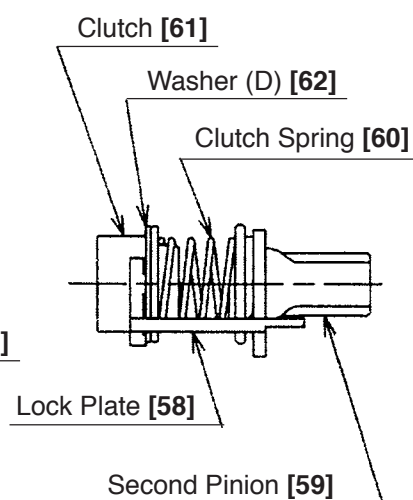

Fig. 15
- Pull out the Second Pinion **[59]**, Clutch Spring **[60]**, Clutch **[61]**, Washer (D) **[62]** and the Lock Plate **[58]** (these parts are sandwiched by means of the Lock Plate **[58]** as a unit as shown in Fig. 15) from the end of the Second Shaft **[63]**. Turn the Reciprocating Bearing **[65]** so that the Piston **[53]** is moved to its maximum upper position (Inner Cover Ass'y **[56]** side). The arm of the Reciprocating Bearing **[65]** can then be disconnected from the Piston Pin **[64]**, and the Second Shaft **[63]** and the components mounted on it can be removed from the Inner Cover Ass'y **[56]** as a unit.